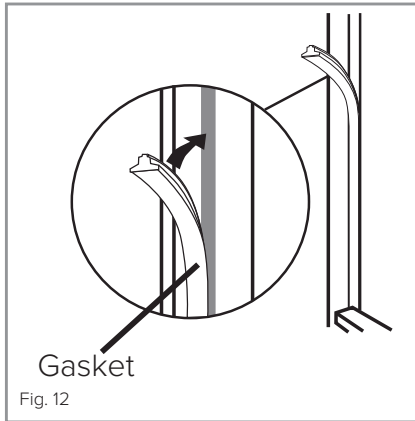

Fig. 12
- Fill the gap on the non-hinged side with the gasket/seal strip provided, as shown in Fig. 12.